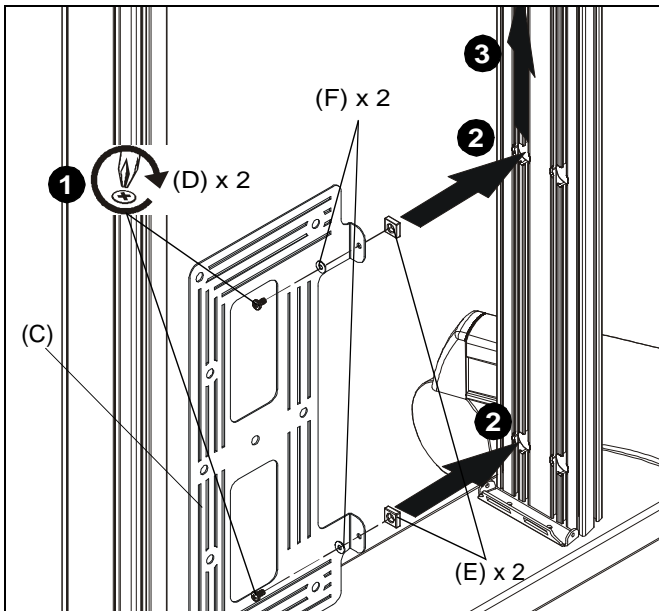

Figure 9
1. Loosely install two #10-24 x 3/8" Phillips head machine screws (D) through two #10 washers (F), holes in component bracket (C) and into two #10-24 square nuts (E). (See Figure 9)
2. Insert two #10-24 square nuts (E) into two openings on column channel. (See Figure 9)
3. Lift component bracket (C) to desired mounting position. (See Figure 9)
4. Tighten screws to a torque force of 10 ft-lbs. (See Figure 9)